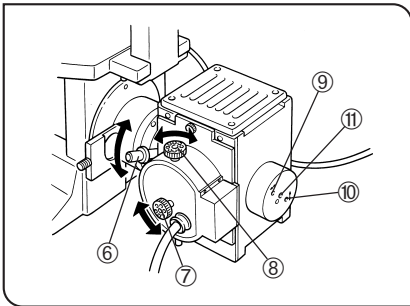

Fig. 4
5. Project the arc image on the white paper, then center and sharpen it by manipulating the collector focusing knob ⑥, burner left/right centering knob ⑦ and burner up/down centering knob ⑧ on the lamp housing. (Figs. 4 & 5)
★ **There may be causes in which the arc image projected on the white paper is a mirror-reflected image. If the arc image moves when the mirror left/right centering screw ⑨ or mirror up/down centering screw ⑩ is turned, it is a mirror-reflected image; bring it out of the field and center the arc image as described above. (Fig. 4)**
6. Manipulate the burner left/right centering knob ⑦ slightly to move the arc image to the right (or left). (Figs. 4 & 6 ㉓)
7. Using the Allen wrench provided with the illuminator, turn the mirror focusing screw ⑨, mirror left/right centering screw ⑨ and mirror up/down centering screw ⑩ to form the mirror-reflected arc image on the white paper. (Figs. 4 & 6 ㉔)
8. Adjust the mirror centering screws ⑨ and ⑩ to move the direct and mirror-reflected arc images in the symmetrical position between each other, and turn the mirror focusing screw ⑪ to adjust the size of the mirror-reflected image until it is identical to that of the direct image. (Figs. 4 & 6 ㉕)
9. Turn the burner left/right centering screw ⑦ to overlap the direct image with the mirror-reflected image. (Figs. 4 & 6 ㉖)
12. Look into the eyepiece and manipulate the collector focusing knob ⑥ to make the field as bright as regular as possible, then turn the knob clockwise to tighten. (Fig. 4)